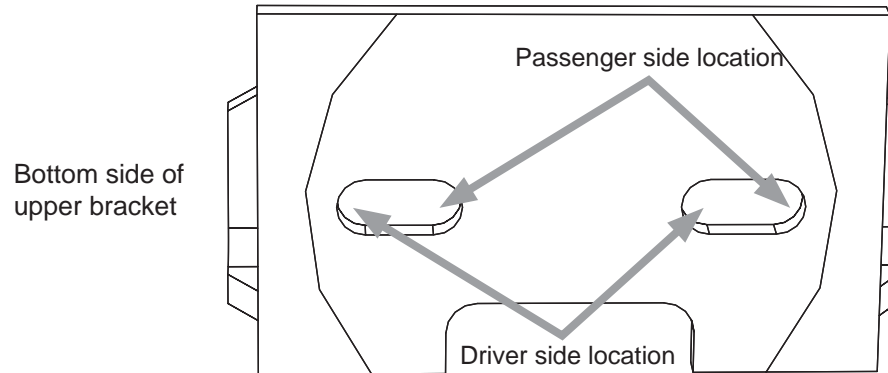

fig. 16
- The upper bracket (C) has two slots for mounting to the air spring and will be specific to which side the assembly is mounted. Figure 16 shows the upper bracket and the correct holes to use for the left (driver) and right (passenger) side installations. Torque the mounting hardware to no more than 20 lb.-ft.